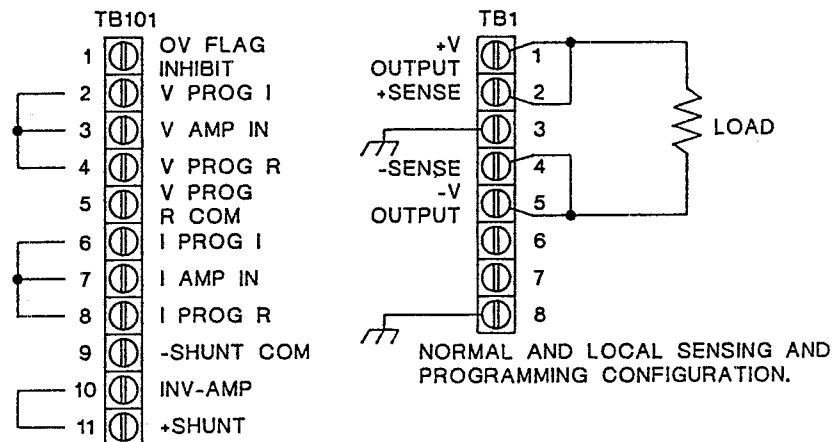

FIG. 1
1. Check that the barrier jumper straps are as shown in Figure 1, for normal mode.
5. Turn the CIRCUIT BREAKER (1) on/off switch to "on". The fan should start immediately. There should be no output voltage or current.
6. Advance the CURRENT CONTROL(2) one turn clockwise and slowly advance the VOLTAGE CONTROL(3). The DC VOLTAGE METER(4) should deflect smoothly from zero to the rated voltage of the supply as this control is advanced to full clockwise.
8. Connect a short circuit to the power output terminal block (TB1-2 & 4) on the rear panel or the front terminals (6).
10. Advance VOLTAGE CONTROL one-half turn and slowly advance CURRENT CONTROL. The DC CURRENT METER(5) should deflect smoothly from zero to the rated current of the supply as this control is advanced completely clockwise. The LED indicators should flip from maximum voltage level (Yellow LED) to the minimum level (Red LED). The middle range should be skipped (Green LED).
2.4.1 NORMAL MODE (Fig. 1)